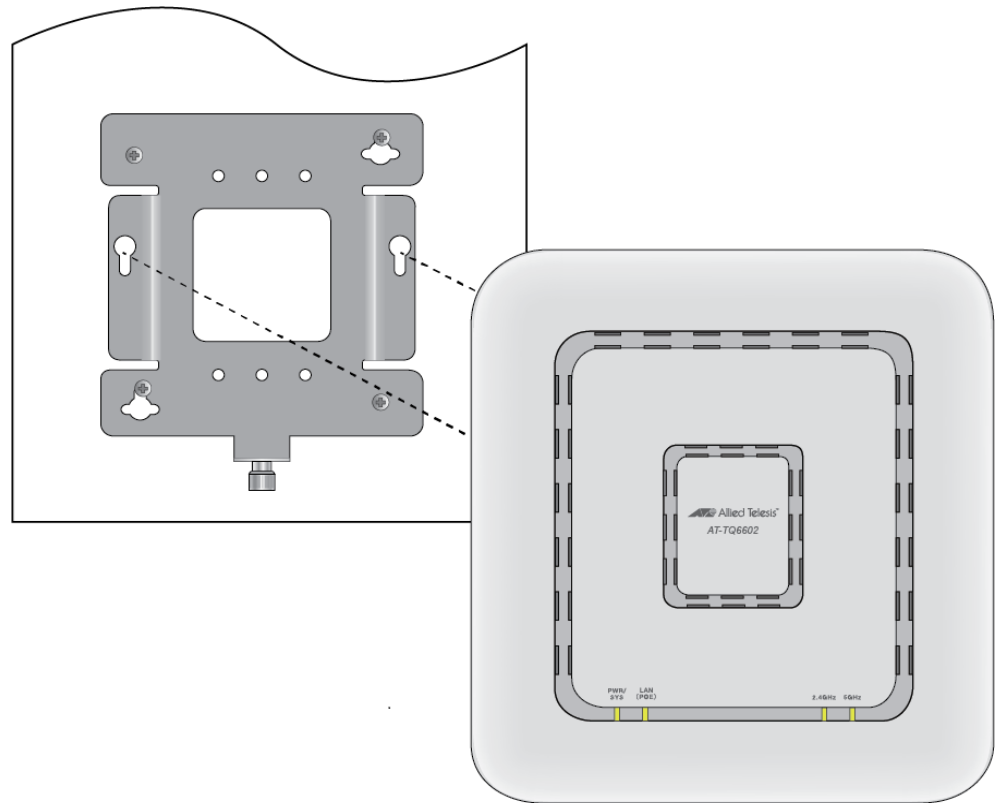

Figure 31. Installing the Wireless Access Point on the Wall Mounting Bracket
1. Align the bottom of the access point over the bracket so that the two screws on the bottom of the device fit into the bracket keyholes. Refer to Figure 31. (The two screws are installed in “Pre-fitting the Mounting Bracket on the Wireless Access Point” on page 51.)